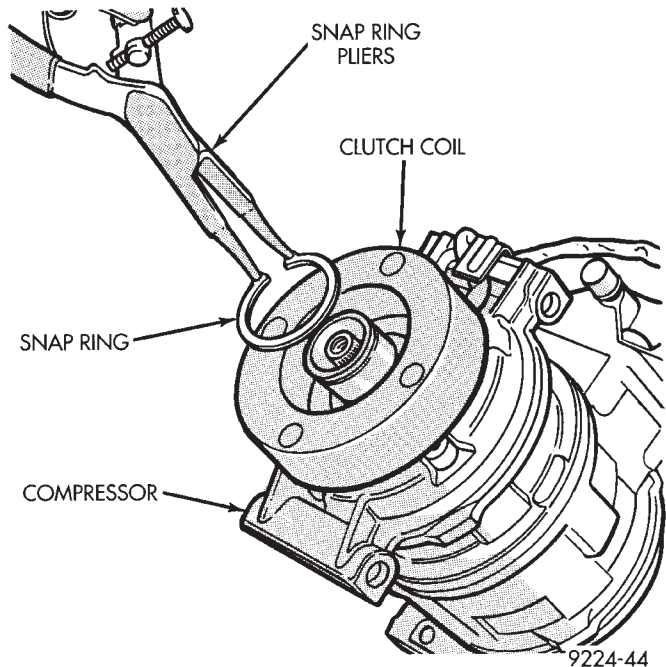

Fig. 4 Clutch Coil Snap Ring
(6) Remove snap ring retaining field coil onto compressor housing (Fig. 4). Slide field coil off of compressor housing.